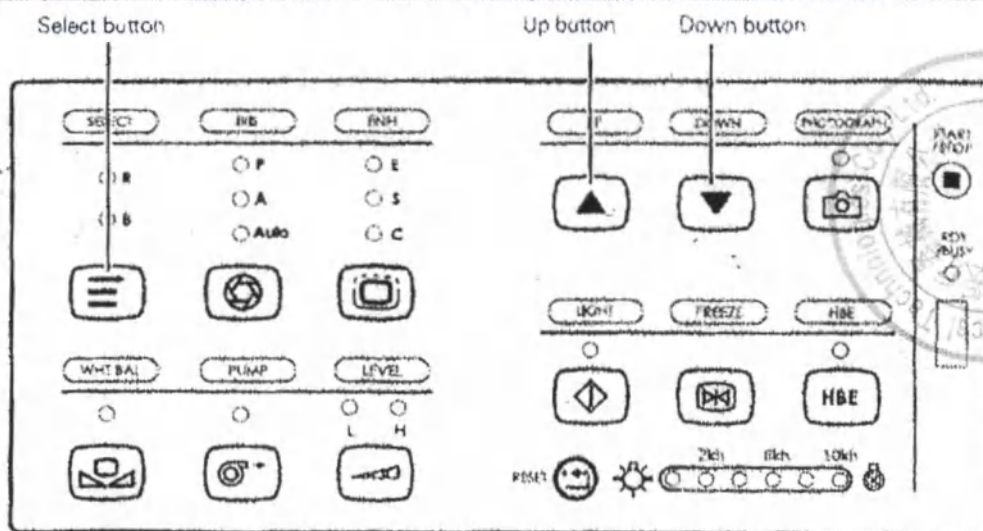

Рис. 12.
1. Click on the select button to select a custom parameter (see Fig. 12). When you press the select button, the parameter switches between "R" (shade of red) and "B" (shade of blue). Indicators R and B reflect the currently selected parameter.